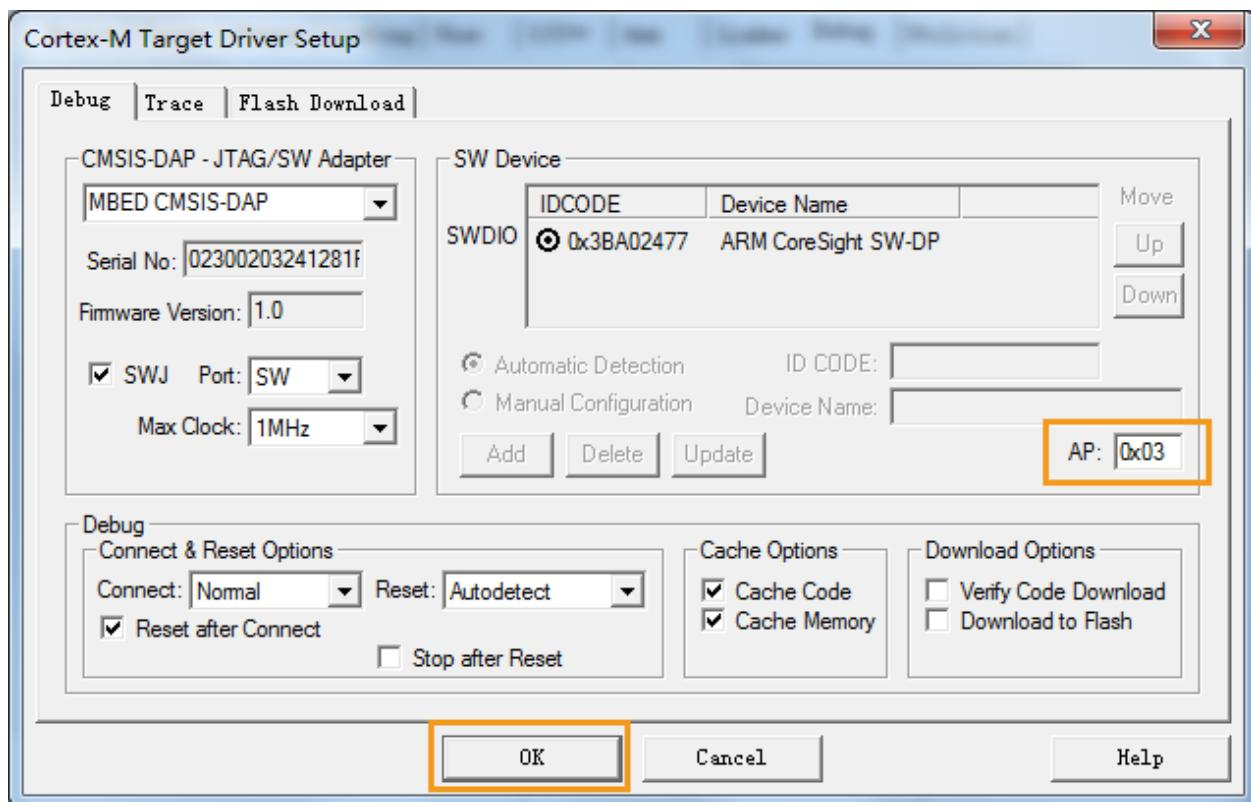

Figure 56. Setup the parameters for downloading the project on Linkit 2523 HDK
- 8) If downloading on LinkIt 2523 HDK, switch to **Debug**, and set **AP** as **0x03** then click **OK** (see Figure 56). Skip this step, if downloading on the LinkIt 7687 HDK.